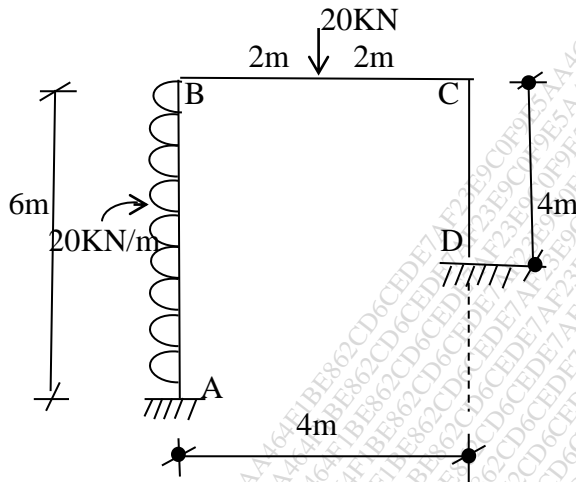

Fig.2
Q.10 Draw the BMD of the frame as shown in fig.2 by using stiffness matrix method. 15